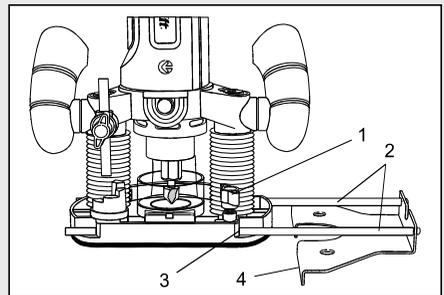

Fig. 22
1. Loosen all three edge guide screws (1) in the router base (Fig. 22). Two edge guide screws are located toward the rear of the router base.